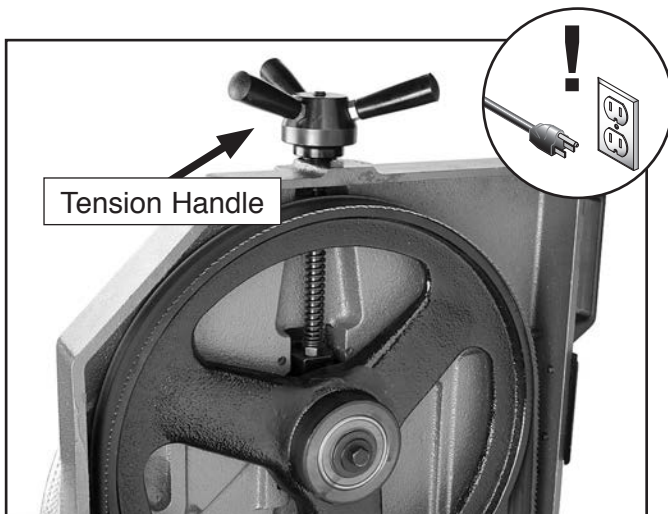

Figure 28. Tension handle and blade.
4. Loosen the tension handle in **Figure 28** and slip the blade off of the wheels.